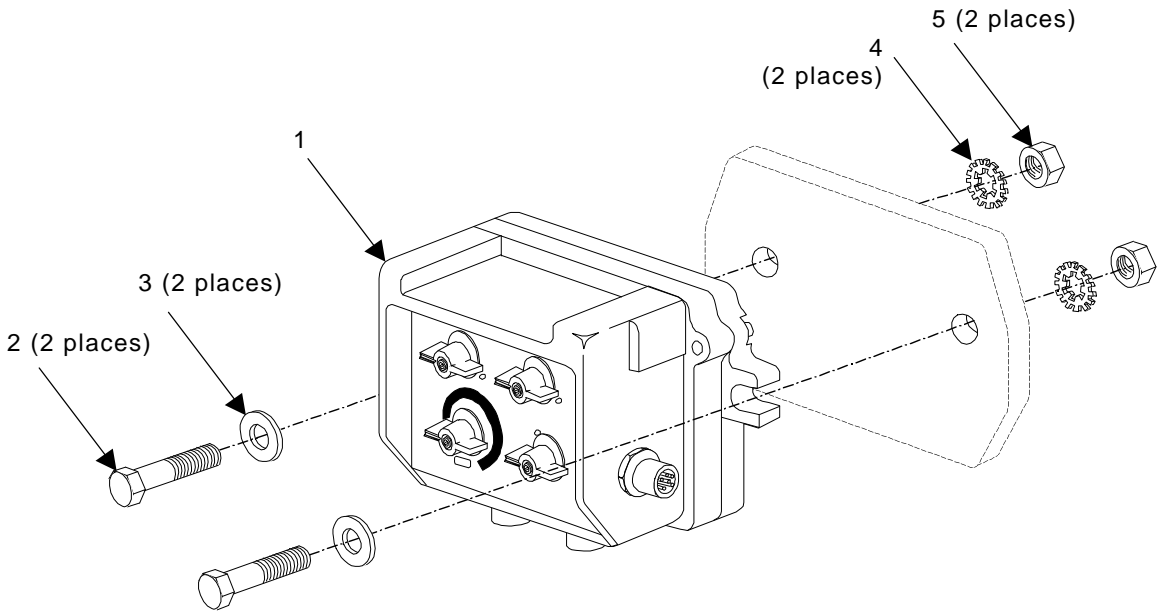

Figure 4-5. Driver's, Mechanic's and Spare FFCS Installation
\* See note 4.2b above and Figure 4-5.
Install and secure the FFCS's to the existing brackets in the sequence(s) shown in Figure 4-5 using the parts listed in Table 4-3 and the following tools:
#### a. MCS and Loudspeaker Cabling Installation (Fig. 4-5)
1. Secure connector P1 of the Radio R/T Cable Assembly (3) to the Radio A connector on the MCS (10).
2. Route the Radio R/T Cable (3) along the bulkhead wall, as shown in Figure 4-5, until the Radio Mounting Tray is reached.
3. Secure connector P2 of the Radio R/T Cable Assembly (3) to the Radio Mounting Tray connector A4J3.
4. Secure connector P1 of the Power Cable Assembly (2) to the Power connector on the MCS (10).
5. Route the Power Cable Assembly (2) along the bulkhead wall as shown in Figure 4-5, until the Radio Mounting Tray is reached.
6. Secure connector P2 of the Power Cable Assembly (2) to the Radio Mounting Tray connector A4J2.
7. Secure connector P1 of the Highway Cable Assembly (1) to the bottom Station connector on the MCS (10).
8. Route the Highway Cable Assembly (1) along the bulkhead wall, as shown in Figure 4-5, until the Mechanic's FFCS (Figure 4-9) is reached.
9. Secure connector P1 of the Highway Cable Assembly (1) to the top Station connector on the MCS (10).
10. Route the Highway Cable Assembly (1) along the bulkhead wall as shown in Figure 4-5, until the Spare FFCS (Figure 4-7) is reached.
11. Connect one end of Loudspeaker Cable Assembly (5) or (6) to the Loudspeaker connector on the MCS (10).
**a. MCS and Loudspeaker Cabling Installation (Fig. 4-5) continued**
12. Connect the other end of the Loudspeaker Cable Assembly (5) or (6) to the Loudspeaker (9) connector.
13. Place the Loudspeaker (9), where appropriate, inside or outside the vehicle.
14. When recovering the Loudspeaker (9), disconnect the Loudspeaker Cable Assembly (5) or (6) from the MCS (10) and Loudspeaker (9), and properly stow the disconnected items within the vehicle.
15. Loosely secure cable routing using tiedown straps (7) and loop clamps (8) supplied with kit. Locate tiedown straps approximately as shown in Figure 4-5. Install loop clamps per 4.7e and Figure 4-8.
2. Secure connector P2 of the Highway Cable Assembly (1), routed to the MCS (Figure 4-5), to the left side Station connector of the Mechanic's FFCS (3).
1. Refer to Figures 4-5, 4-6, and 4-7 for the appropriate locations for installing the cable loop clamps.